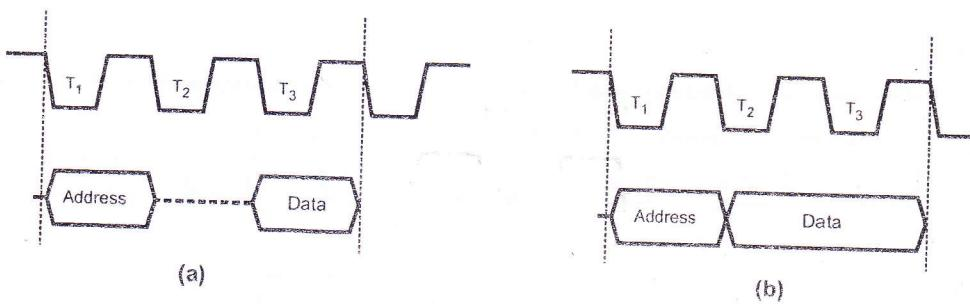

Fig. 2.12 Data bus
- During Read cycle, data will appear on the data bus during later part of  $T_2$ -state as shown in fig 2.12 (a).
- During Write cycle, data will appear on the data bus at the beginning of the  $T_2$ -state as shown in fig 2.12 (b)